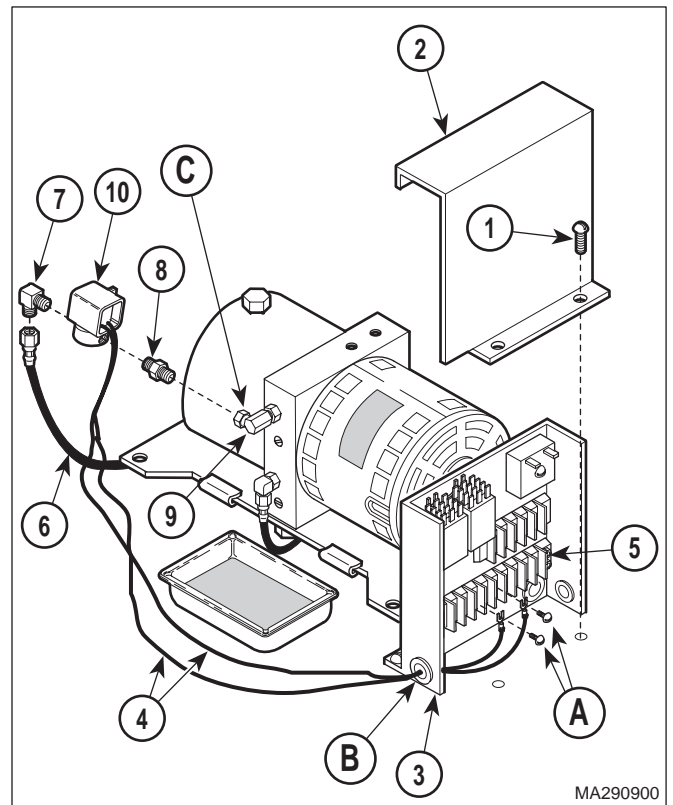

Figure 4-5 Anti-cavitation Solenoid Valve Removal / Installation
- (1) Unplug power cord from wall outlet.
- (2) Remove motor cover assembly (Refer to para 4.2).
- (3) Remove two screws (1, Figure 4-5) and control cover (2) from control panel (3).
- (4) Loosen two terminal screws (A); then tag and disconnect anti-cavitation solenoid valve wires (4) from terminal block (5).